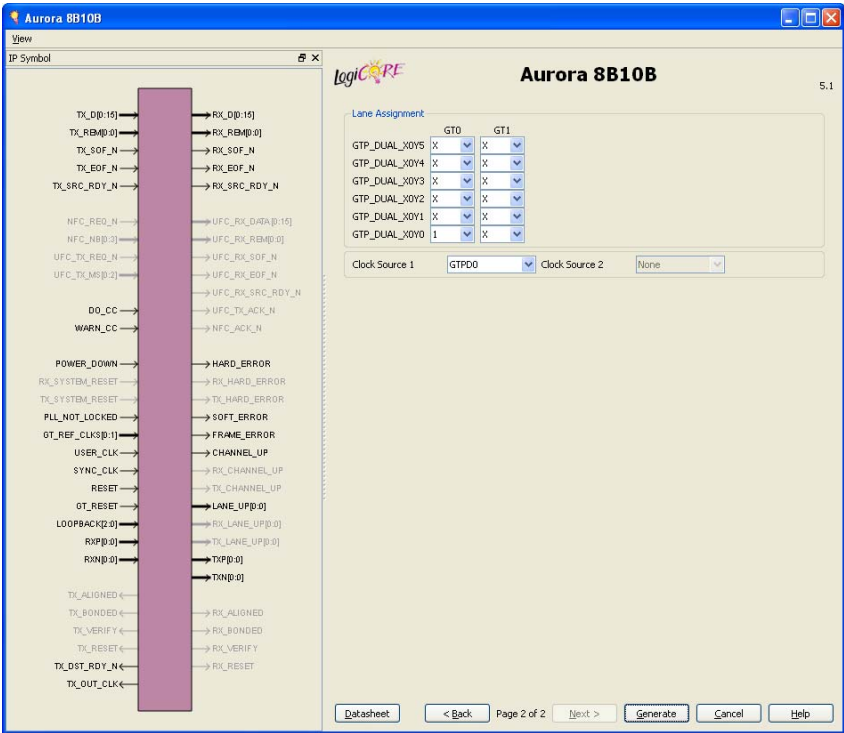

Figure 2-2: Second GUI Page for Virtex-5 FPGA RocketIO GTP Transceivers
- Figure 2-2, page 22 for Virtex®-5 FPGA RocketIO™ GTP transceivers